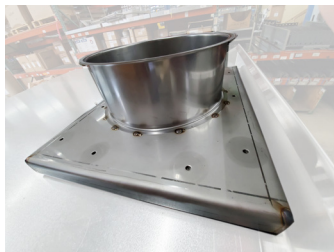

Figure 3--flanged adapter that must be removed from oven before installing the chimney, if it is currently installed on your oven.
1. Remove flanged adapter plate (See Figure 3 below) from oven if installed.